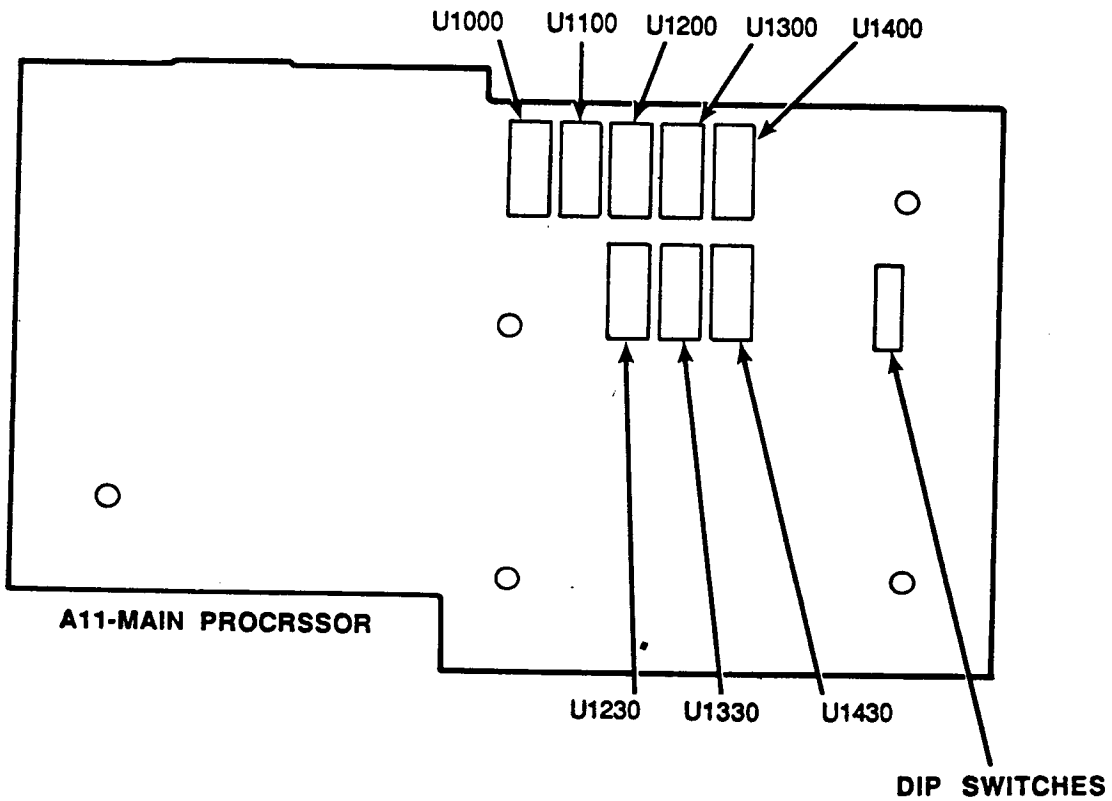

Figure 2. - EPROM locations, Main Processor ckt bd A11
- 3. Replace U1000, U1100, U1200, U1230, U1300, U1330, U1400, and U1430 with the new EPROM's that are provided in this kit. Refer to Figure 2, for EPROM locations.